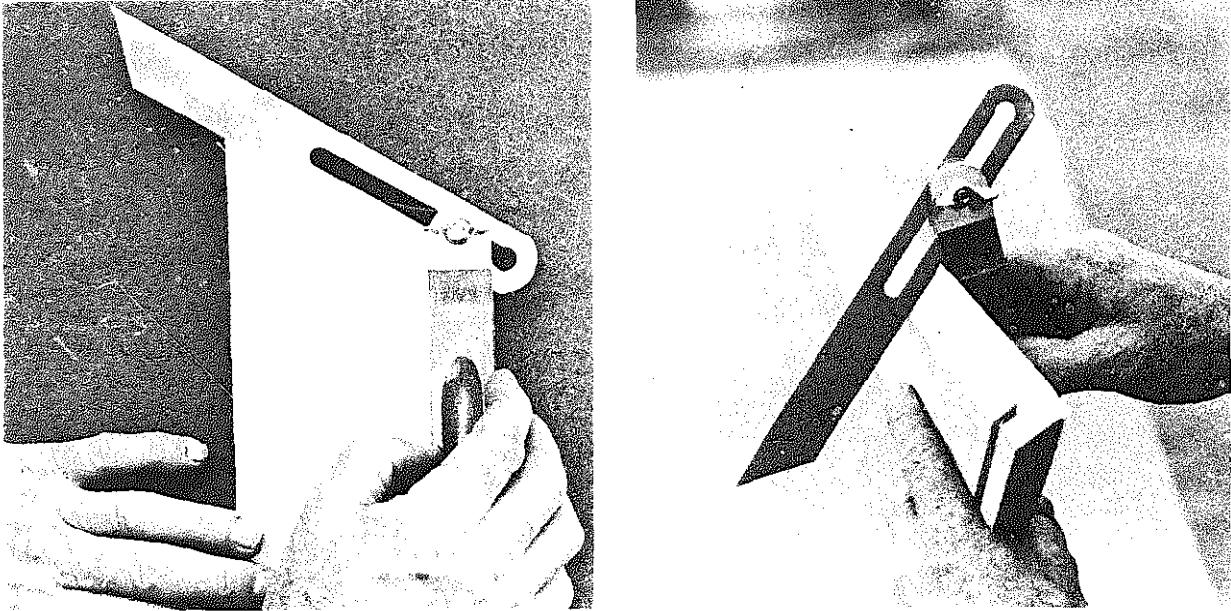

Fig. 5-21 Testing angular cuts with a sliding T bevel
2. Use the sliding T bevel as one would a try square when testing the angles of an edge or end as shown in figure 5-21.